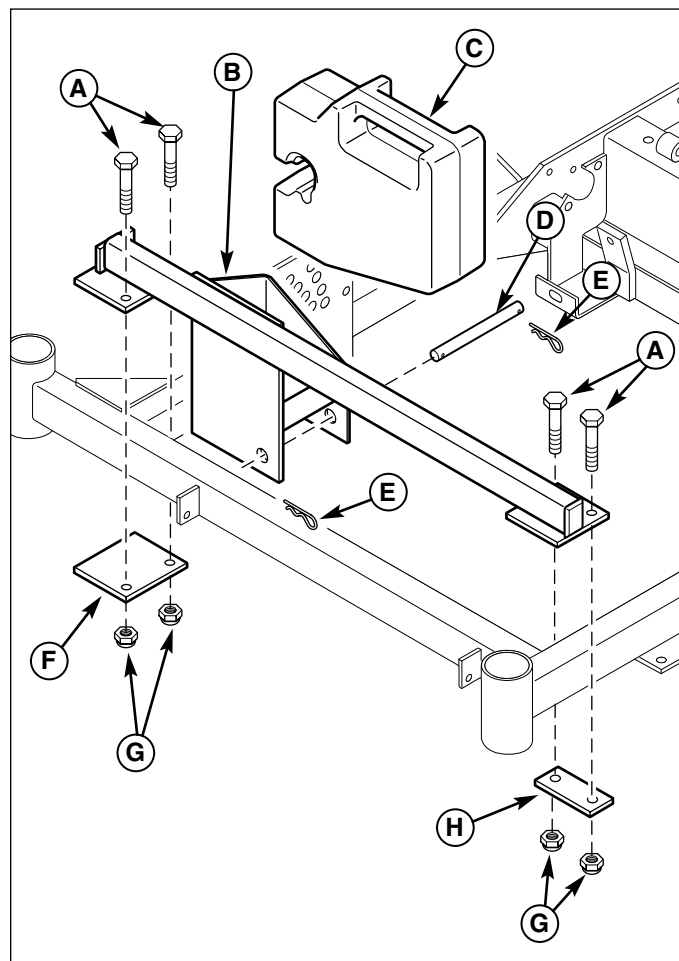

Figure 28. Install Weight Carrier
2. Install the weight carrier (B, Figure 28), mount plates (F & H) and fasten with the 3/8-16 x 3" bolts (A) and 3/8-16 nylon lock nuts (G). Tighten securely.
3. Install the counter weight (C) in the weight carrier and secure with the retaining pin (D) and hair pin clips (E).